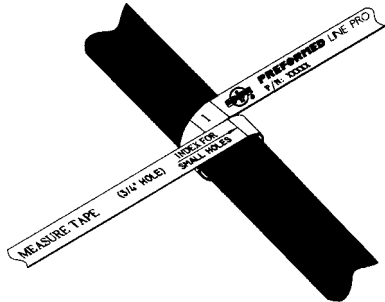

FIGURE 4 - MEASURING CABLE – BE SURE TO USE CORRECT END OF CABLE MEASURE TAPE
- The number on the COYOTE Cable Measure Tape indicates the number of half-lapped layers of LOCK-TAPE Sealant to be applied around the cable. (Figure 4)